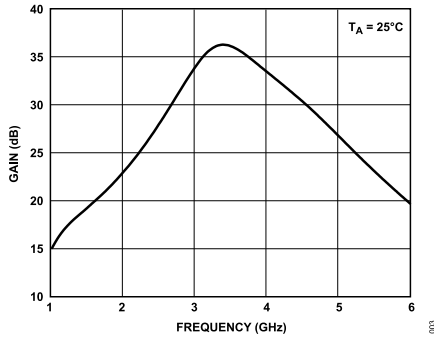
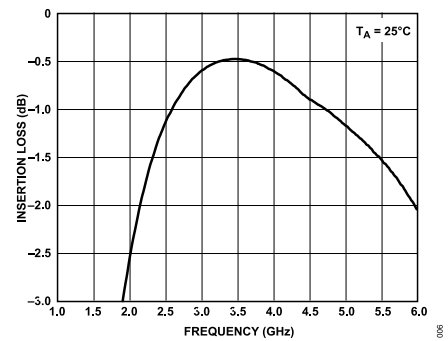

Figure 4. Receive Operation, High Gain
Figure 7. Transmit Operation, Antenna to Termination Insertion Loss
6. The ADRF5515A-EVALZ is expected to have a high and low receive gain of 36 dB and 17 dB, respectively, at 3.6 GHz. See the expected results in Figure 4 to Figure 7.